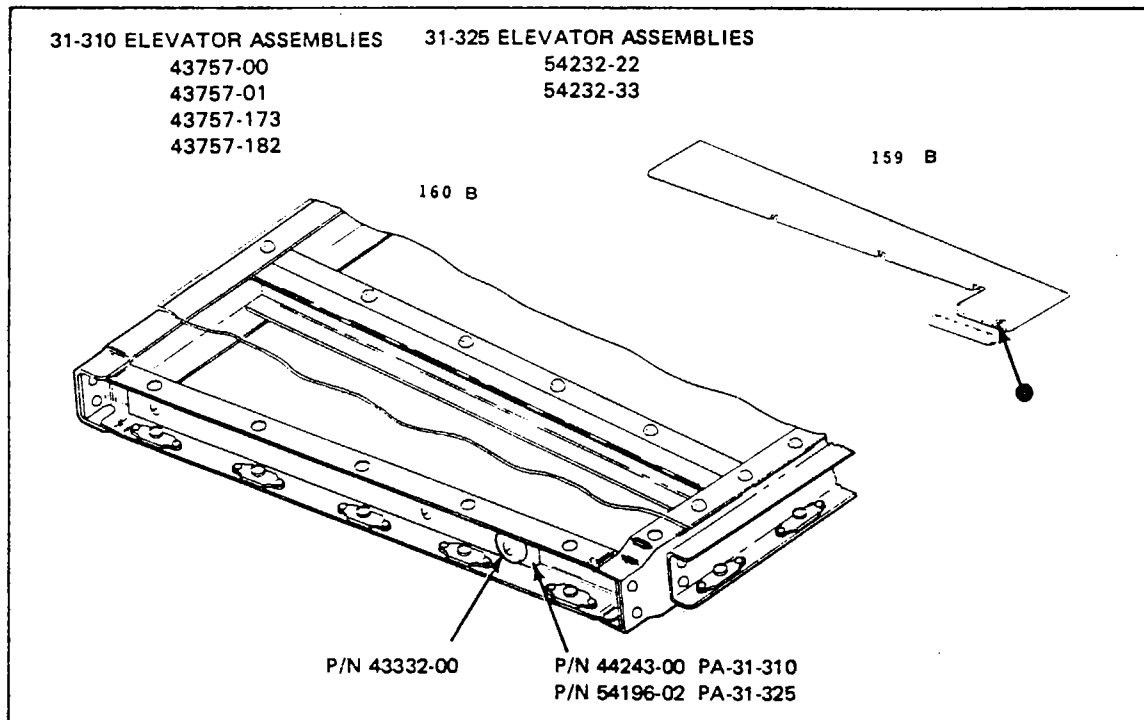

Figure 4-19. Elevator Balance Weight Installation (With Wing Lockers)
- (b) Attach the trim weights using the balance weight attachment bolts (8 max., 1 per bolt). Use the proper length AN3 bolts to accommodate the trim weights. (Refer to Figure 4-19.)
- (b) Attach the trim weights using the balance weight attaching bolts (6 max., 2 per bolt). Use the proper length AN3 bolts to accommodate the trim weights. (Refer to Figure 4-19.)